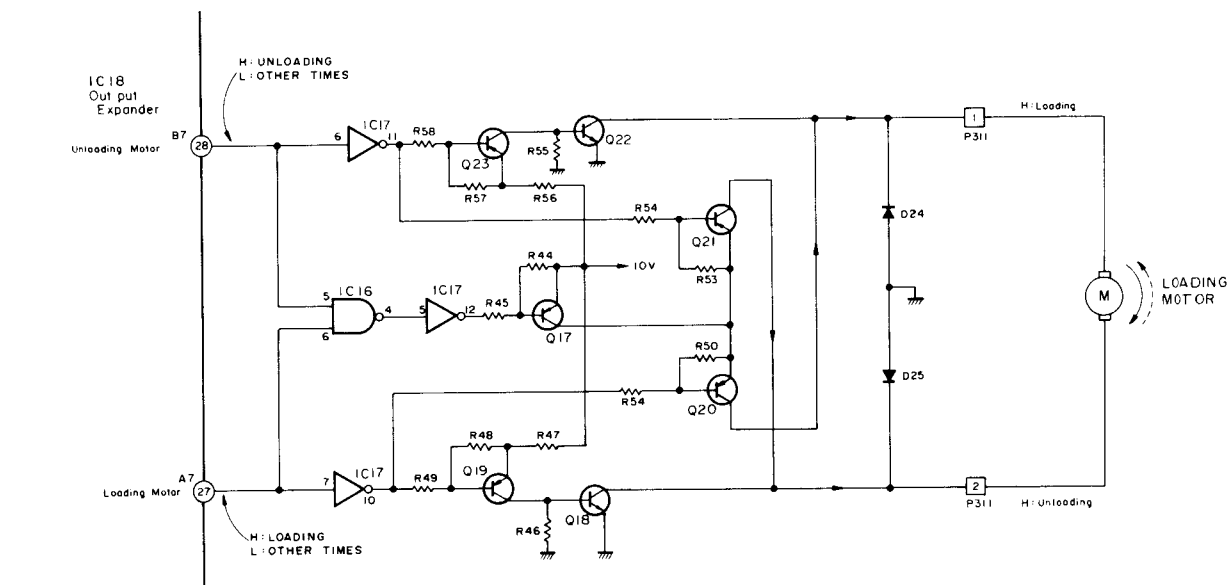

Fig. 3-4
1. Change the direction of motor rotation by switching the motor current polarity between loading and unloading. In Fig. 3-4.